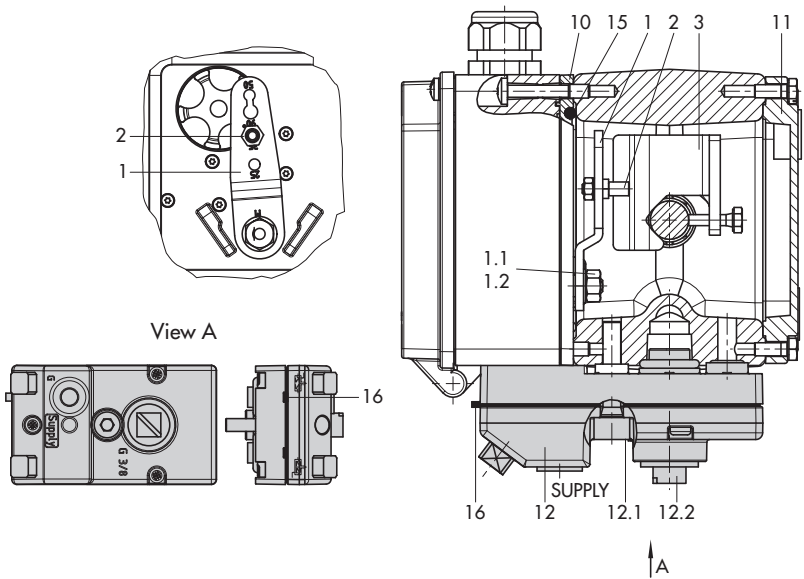

Fig. 9 · Direct attachment – Signal pressure connection for Type 3277 Actuator with 240 to 700 cm²
3. Insert formed seal (15) in the groove of the positioner housing.
4. Place positioner on the actuator in such a manner that the follower pin (2) rests on top of the follower clamp (3). During which, press on the ribbed area to lock the pick-up lever in the top position (Fig. 9).